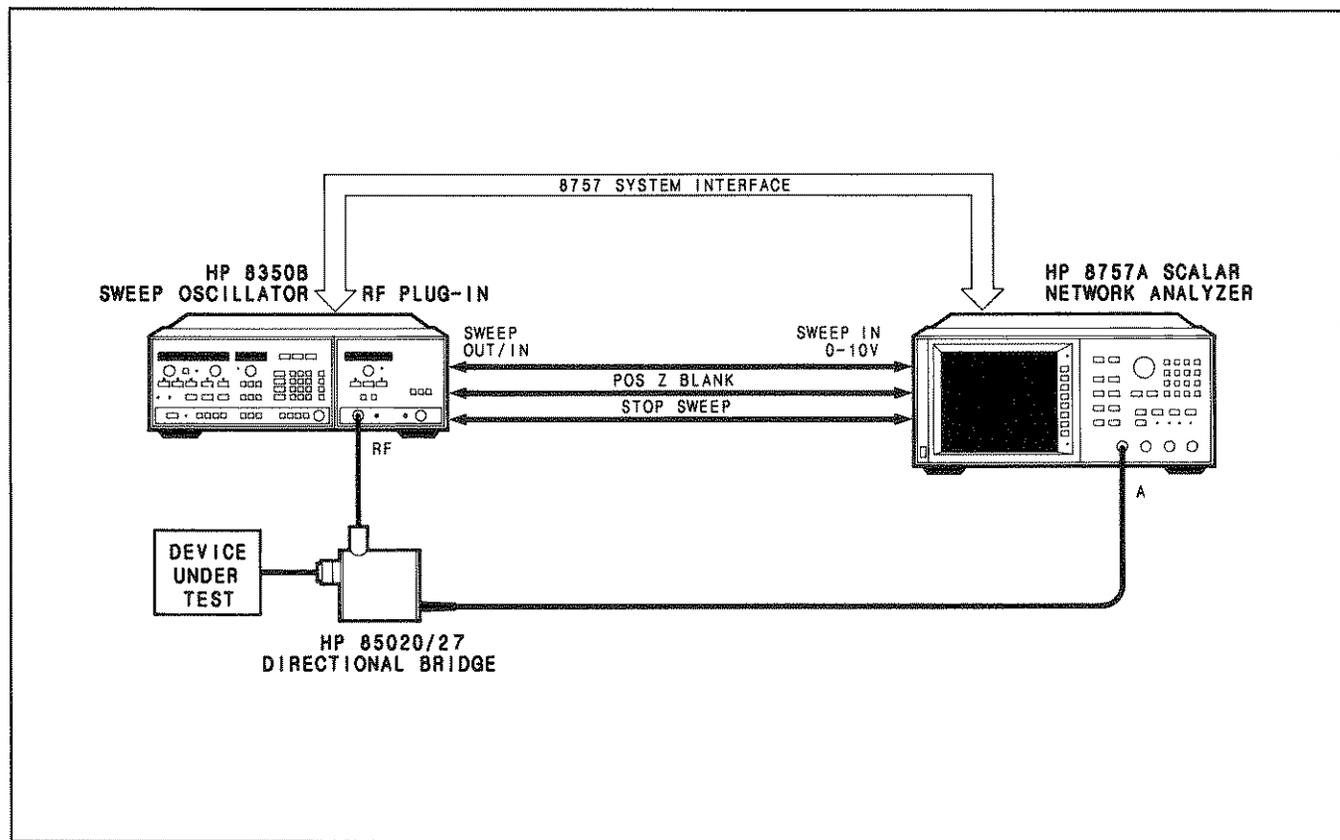

Figure 26. Measurement Setup for Reflection Measurements in AC or DC Mode
For typical reflection measurements connect the device under test to the directional bridge test port as shown in Figure 26. The HP 85020 directional bridges use the AC detection mode for detecting the reflected signal. The HP 85027 directional bridges use either AC or DC detection mode. If adapters are required, use the same adapter for calibration and measurement. For ratio measurements, insert a power splitter or coupler at the source for the reference signal (R).